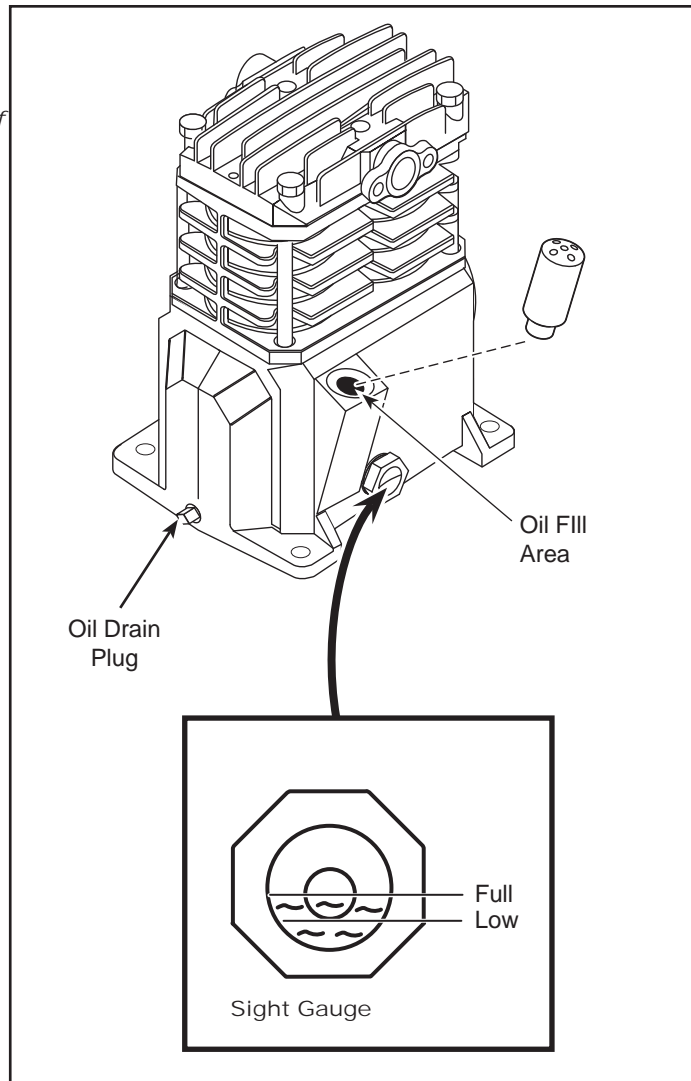

Figure 5 - Lubrication
**CAUTION** Before operating compressor, ensure oil is filled to the center of the sight gauge (See Figure 5).